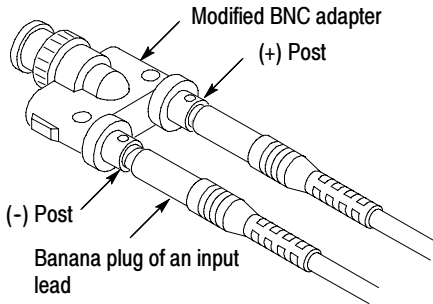

Figure 8: Slide probe leads onto the binding posts
10. Attach the differential probe input leads (without attachment accessories) by sliding the banana plug of the leads onto the binding posts of the Modified BNC adapter, as shown in Figure 8 on page 29.
6. Attach the differential probe input leads (without attachment accessories) by sliding the banana plug of the leads onto the binding posts metal sleeves on the modified BNC adapter. Refer to Figure 8 on page 29. Enable the output of the generator.